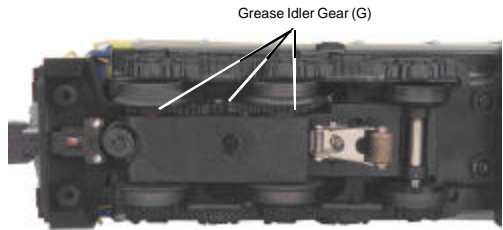

Figure 6: Greasing The Idler Gears
2. Once the cab is removed, remove the trucks by unscrewing the black Phillips motor mount screw located on the underside of the drive trucks (see Fig. 6).
Lubricate the outside truck block idler and drive gears with grease. Use the diagram shown in Figure 6 below as a guide and add grease to the points marked with a “G.”